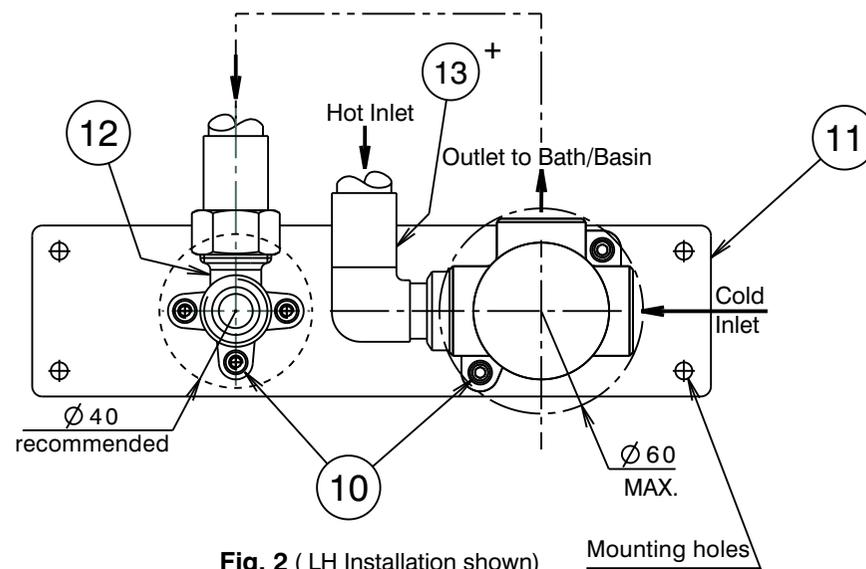
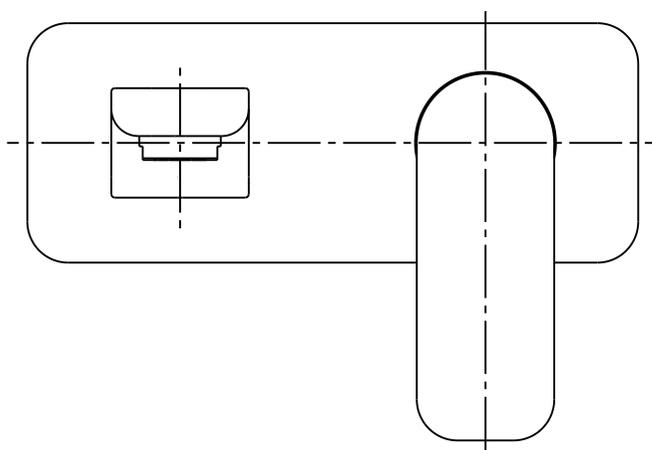

Fig. 2 (LH Installation shown)
Fig. 3 (LH Installation Shown)
- 1) Determine if outlet (17) is to be positioned to the right or the left of the mixer body (8) when installed (Fig 3.). Fit suitable fittings to the connection ports of the mixer (8) (Fig 2.). When facing the mixer, the connections should be as follows :
Note: A suitable elbow fitting (13⁺) should be fitted to the inlet connection adjacent to the lugged elbow (12) (Fig.2). Attach the mixer body (8) & the lugged elbow (12) to the mounting plate (11) with screws (10) and tighten using a suitable screw driver. Note: Mounting plate can be rotated 180° to change hand.
- 2) Fit the mounting plate (11) onto a suitable noggin in the wall & secure using screws through the holes in each corner.
- * The mounting plate (11) must be installed horizontal & parallel to the face of the wall studs to ensure correct installation.
- 3) Complete the connections. (Fig. 2). Check all connections for leaks and the mixer for correct operation.